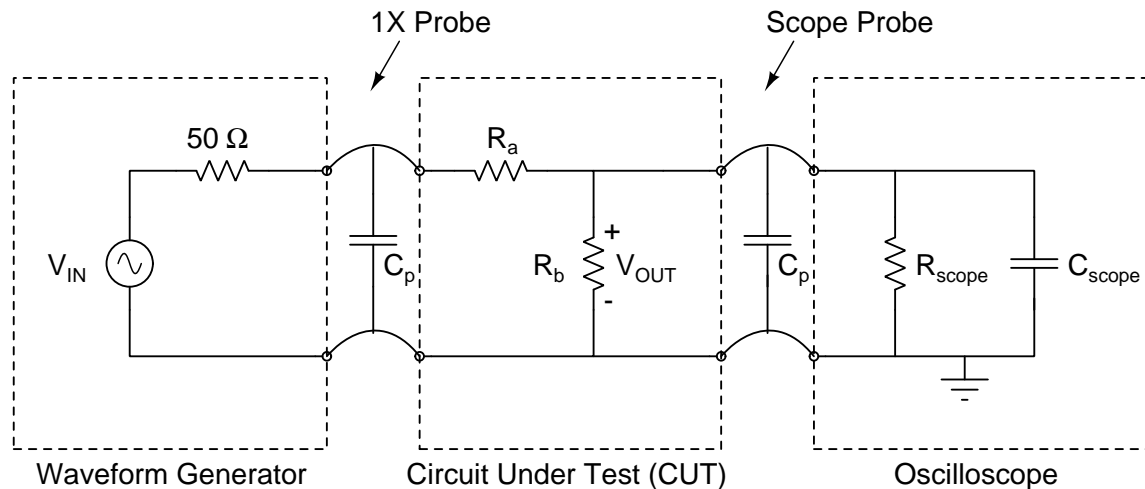

Figure 2: Measurement set-up for the resistor divider circuit.
This lab illustrates that the actual values of the components, and the impedances associated with the test equipment and cables, must be considered when determining the actual value of the voltage across a circuit element. All voltage sources, including batteries and waveform generators, have a finite source impedance. All measurement equipment, including oscilloscopes and digital volt meters (DVMs), have a finite input impedance that presents a load to the circuit. Cables that connect the circuit to the test equipment introduce additional impedances in the circuit. The schematic of the circuit under test (CUT) when connected to a waveform generator (WG) and oscilloscope (scope) is shown in Figure 2.
1. Use NGSpice to simulate the expected output voltage V_{OUT} as a function of the resistance R , when the value of R is varied from 10 Ω to 10 M Ω . Simulate the circuit of **Figure 2**. Include the capacitance of each probe, the output resistance of the WG, and the input impedance of the scope. A Matlab[®] file is available at: (https://davidkotecki.com/ECE214/docs/Matlab/ECE214_2021_Lab1.m).
2. Plot the simulated results from Post-Lab **item 1** on a semi-log graph with the x-axis (resistance value) as the logarithmic scale. On the same graph, plot the three measured values of V_{OUT} from **Table 2**.